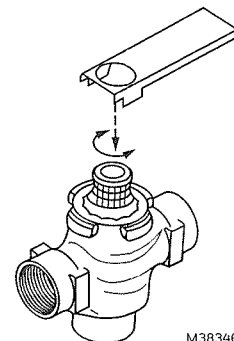

Fig. 2.
5. Unscrew old cartridge from valve with supplied wrench (See Fig. 2). It may be necessary to use pliers or other tools to remove the old cartridge due to calcium or dirt buildup in the valve body.